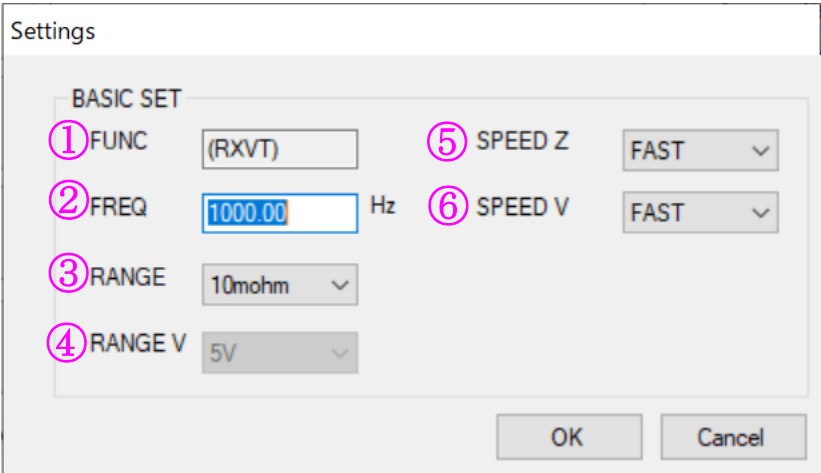

Fig 3-11. Set measurement condition
- (1) Click [Set].
- (2) [Set] screen will appear. (Fig 3-11)
- (3) Set the measurement conditions, then click [OK]